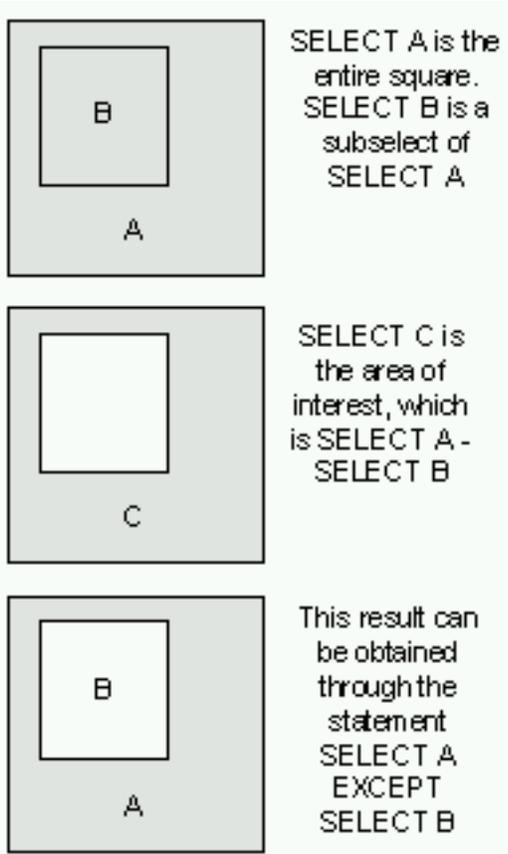

Figure 6: Illustration of the EXCEPT keyword
The code used to create each of the SQL stored procedures can be found in Appendix B. In the SQL procedures, notice that the FACTTABLE, CUSTOMER, MARKET, and PRODUCT procedures use the keyword "EXCEPT" in the procedure. The EXCEPT keyword is new for DB2 Universal Database(TM) for iSeries(TM) V5R3. To illustrate how this keyword functions, refer to Figure 6: